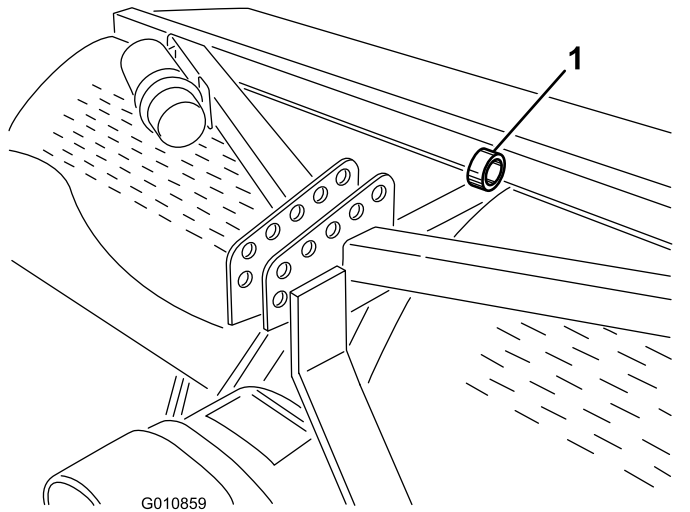

Figure 41
**Note:** You can use a hoist to lift the aerator. Use the coring head eyelet as a hoist attachment point (Figure 41). Ensure that the hoist has enough lift capacity. Refer to Specifications (page 21).